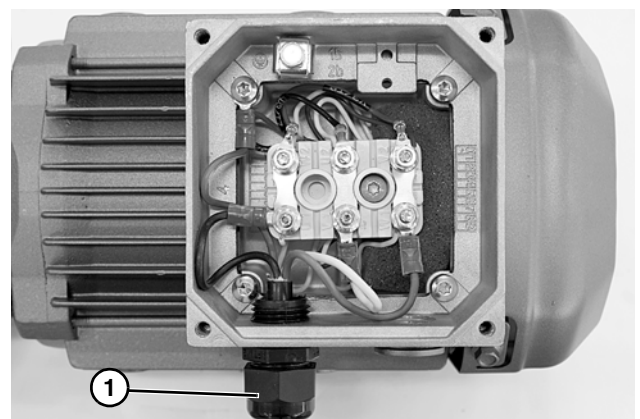

Figure 14
- Install cord grip and power cord (**Figure 14, item 1**) mount to terminal box as required.